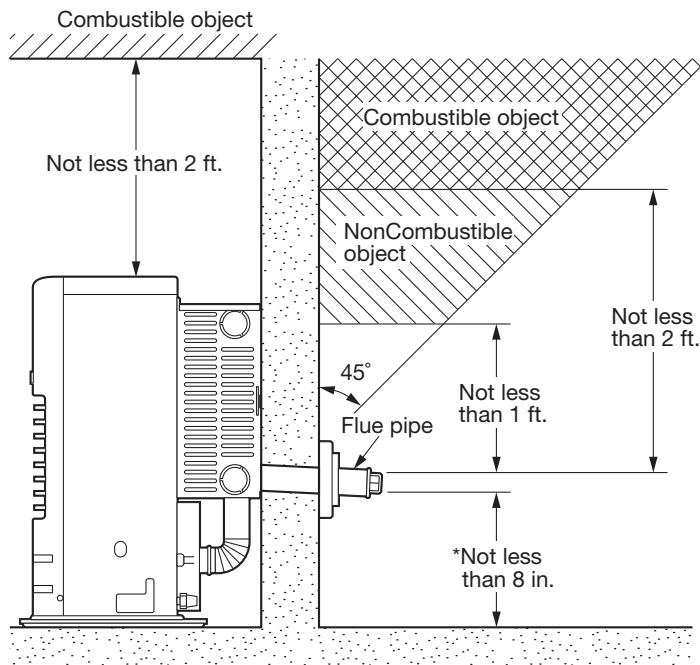

Fig. 2
①	Adjustable Exhaust Pipe Max. 39- 3 / 8 - Min. 22- 7 / 16	1
②	Intake Pipe (40 inch)	1
③	Insulating cloth cover (40 inch)	1
④	Pipe Holder	2
⑤	Pipe Support Hardware	2 sets
⑥	L-Shaped Exhaust Joint	1
When using the "Extension pipe (M)" extension kit, the distance between the heater exhaust pipe connection and the flue pipe connection must be at least 25-5/8 inch but no more than 42-1/2 inch. (See Figure 2 for reference.)
2. Make sure that the outside area to where the flue pipe will reach is clear of any objects. (See Fig. 2 & 3)
**CAUTION!** The standard flue pipe installation, as shown in Fig. 2, is for wall thickness from 4 in. to 9 in. ONLY.